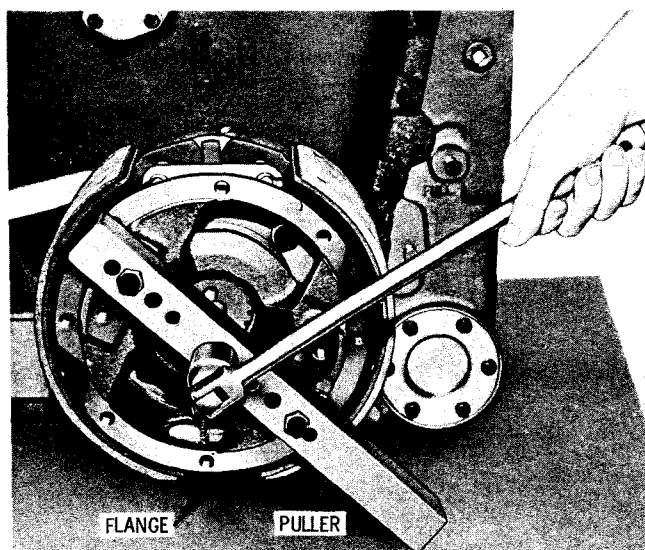

Fig. 5-86. Removing output flange
(7) Using a suitable puller (fig. 5-86), remove the transmission output flange. If the flange is a tight fit, refer to paragraph 4-8a.